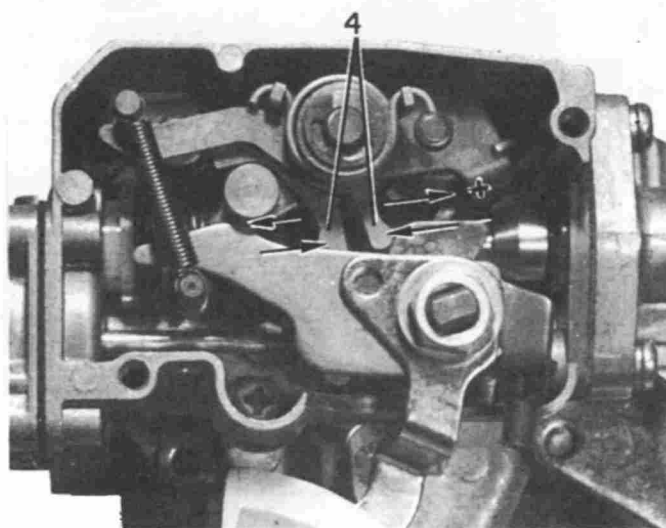

Fig. 16.17 Measurement of dechoke clearance (Sec 4)
22 Adjust as necessary by bending the fork lugs (4) in Fig. 16.17 in the appropriate direction. Opening the fork lugs will increase the clearance, and closing the fork lugs will decrease the clearance.